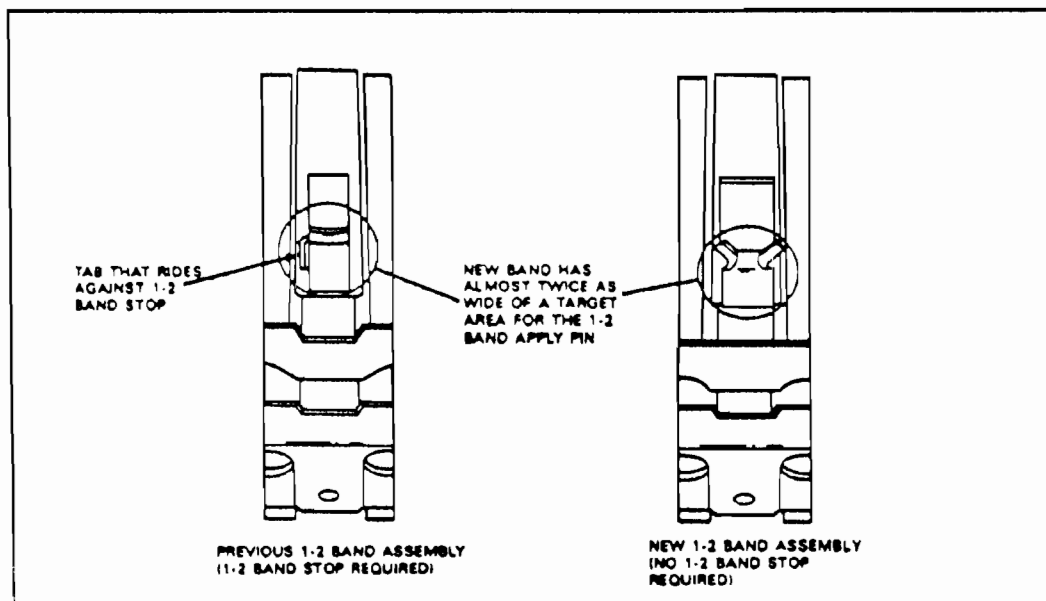

Figure 42
- (1) 1-2 BAND ASSEMBLY - The target area on the new 1-2 band, where the band apply pin engages, has been made wider and has "Wings" added to prevent the pin from ever missing the "Target" area (See Figure 42).